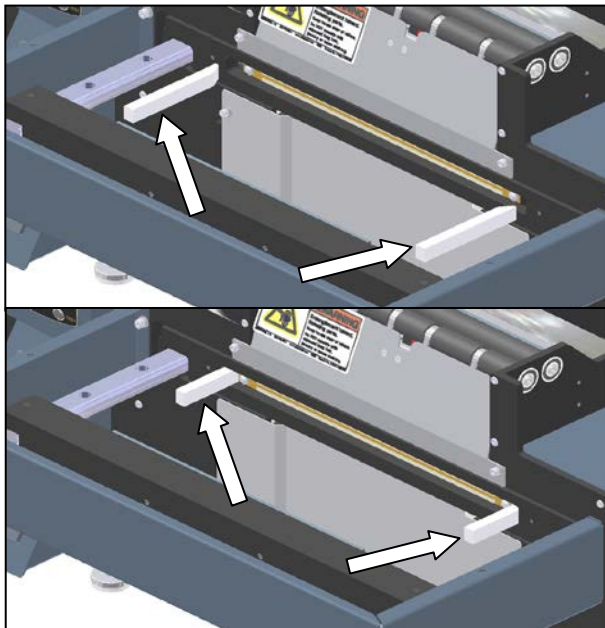

Figure 3-336. Inserting the Seal Wire Changing Tools
3. Manually open the pressure jaw to its completely open position. Insert the seal wire changing tools (shipped with the accessories for your Sharp SX™ in the accompanying box) into the stripper plate as shown in Figure 3-336.